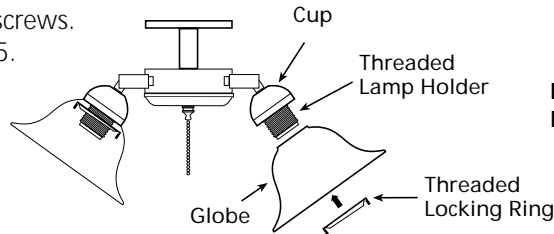

Figure 11c - Installing the Globes
1. Place globe over threaded lampholder in cup. Install and hand tighten threaded locking ring on lampholder as shown in Figures 11c and 11d.